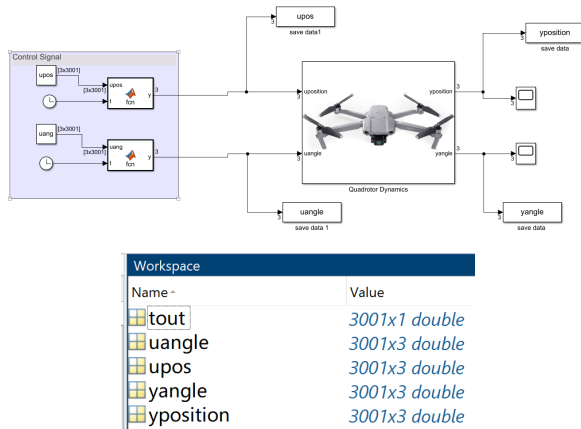

Fig. 5. Example Simulink model and saved data structure.
Generate training dataset to train a neural network plant model (Fig. 5) of the quadrotor dynamics. Use *nnstart* tool or write code. Show the NN parameters' tuning process and provide training results and validation results. Discuss the results and improve the model performance. A video example of collecting data and train NN (use *nnstart* tool) is shown in https://youtu.be/C5S_IHbP3xA. Alternatively, you can follow the below hints (using code):
- Collect the training data with the provided control signal (Fig. 5). Save the data as a 2-d array to the workspace.